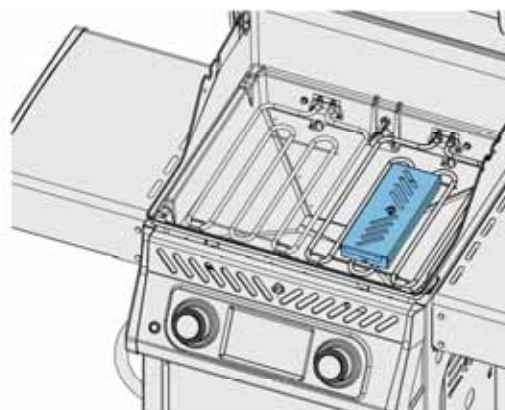

Fig. 6
1. Remove the smoker box (if in use) and wash in warm soapy water. (Fig. 6)